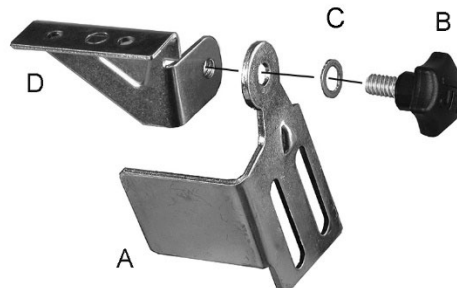

Figure 6-1: bracket to spark guard
Refer to Figure 6-1.
**Note:** Spark guard (A) and eye shield bracket (D) are marked L for left side assembly. Assemble these using Figure 6-1 as a guide.